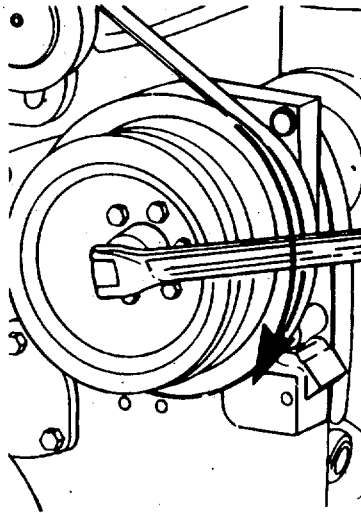

FIGURE 3-19. Rotating Accessory Drive.
- (1) With the rocker lever covers removed and rocker housing capscrews tightened to 60 ft-lb. torque, alternately tighten the injector holddown clamp capscrews to 156 in-lb. torque. Refer to paragraph 2-34.
- (2) General adjustment information:
- (b) Use the accessory drive shaft to rotate the crankshaft. See FIGURE 3-19 .